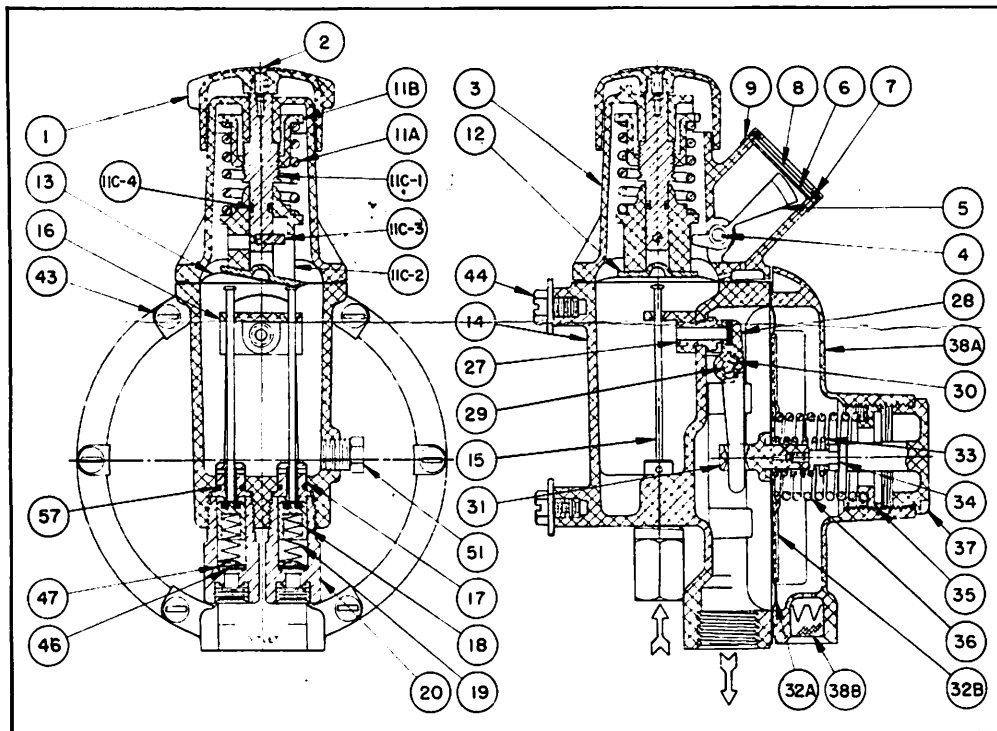

Figure 2—Type 965C sectional
To reassemble, first insert the fine inlet screen (47) and then the coarse inlet screen (46) into the inlet fitting. Replace the spring and disc assembly as shown in Figure 2. After replacing the orifice, making sure that the pushpin (15) protrudes through the orifice opening, the inlet fitting assembly can be screwed into the regulator